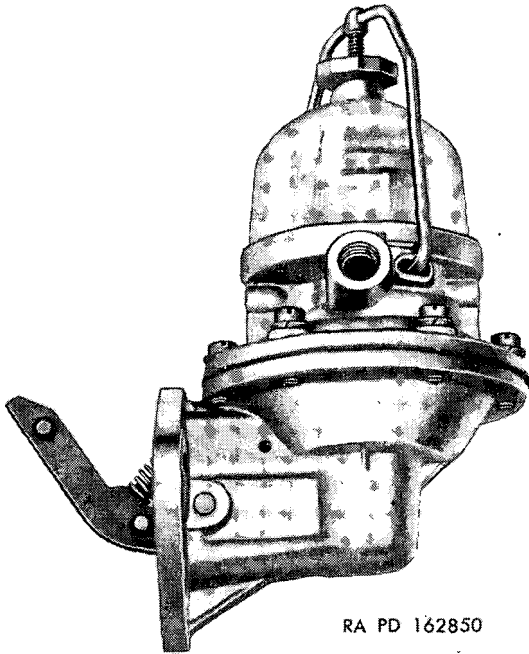
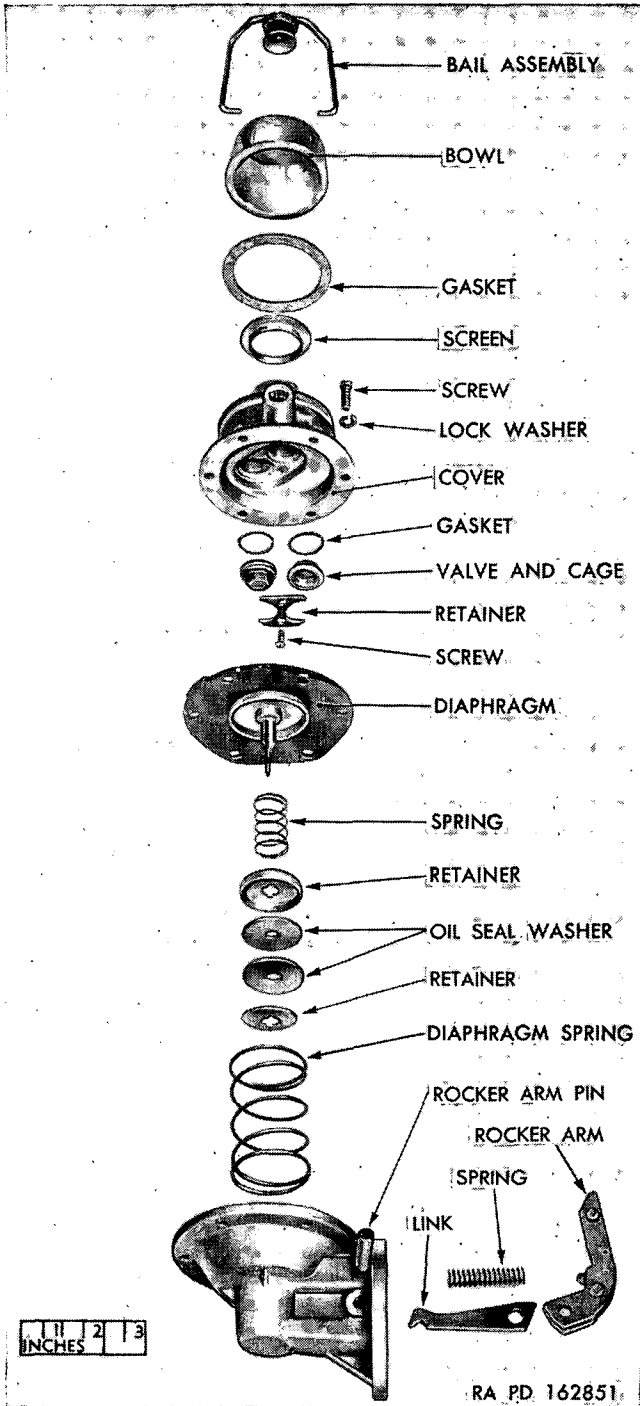

Figure 24. Fuel pump, series AF.
Figure 25. Fuel pump—disassembled (typical series AF construction).
- (1) Mark edges of top cover and body (fig. 25) of series AF fuel pump (fig. 24) with a file. Mark at heat stud, if used. The parts may then be assembled in the same relative positions and heat shield stud properly located.
a. Assemble Body (fig. 25).
- (1) Place rocker arm, link, and arm spring in body with link hook down. Aline rocker arm pin hole with hole in body and drive in rocker arm pin. Install washer on small end of rocker arm pin and spread end of pin.
- (2) Soak new diaphragm in clean kerosene. Fuel oil may be used; but do not use shellac or sealing compound. If used, install oil seal spring, upper oil seal retainer, two oil seal washers, and lower retainer on the diaphragm pull rod. Turn the lower oil seal retainer to lock in place. If used, the rubber oil seal is positioned over the body pull rod well, and retained with the diaphragm spring.
- (3) Place diaphragm spring over pull rod well and install diaphragm assembly. Hold pump body upside down and press diaphragm against spring. At the same time, tilt the diaphragm so the pull rod angles away from link hook. Bring diaphragm back to level position and link should engage the pull rod.